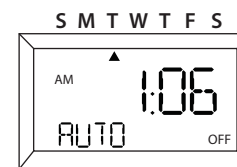

Figure 8
- Once the **ON** and **OFF** times and days have been set for a program, the timer will ask you to "SAVE". Press **ENTER** to save the program. The timer displays **AUTO**, indicating the program is saved and activated. See Figure 8.